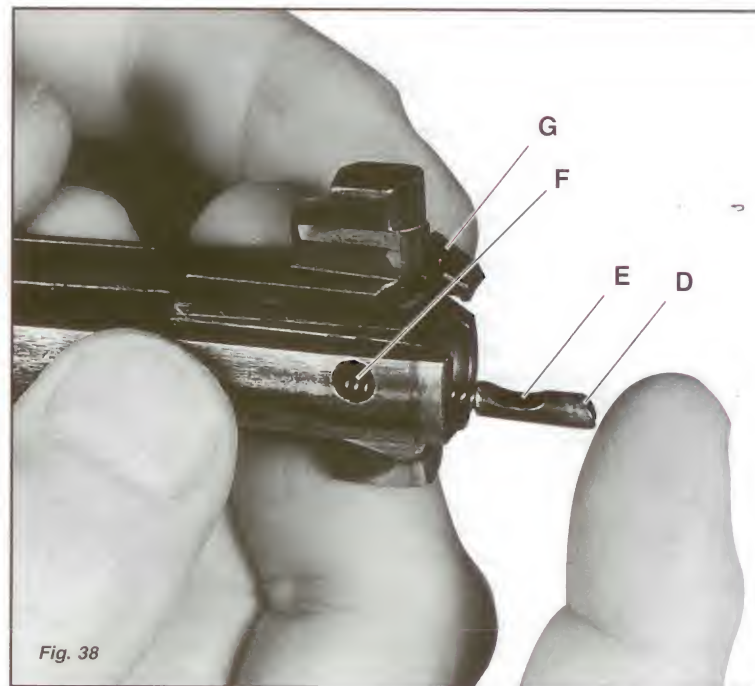

Fig. 38
When reassembling bolt (Fig. 38), orient ejector (D) so its clearance notch (E) will permit passage of the extractor shank through its hole in the bolt (F). Use a combination tool, short wooden dowel or fired cartridge case pressed against the bolt face to force the ejector back against its spring until the extractor (G) can be pressed in. **CAUTION:** The spring is strong and can send ejector flying if suddenly released. **WEAR SAFETY GLASSES!**